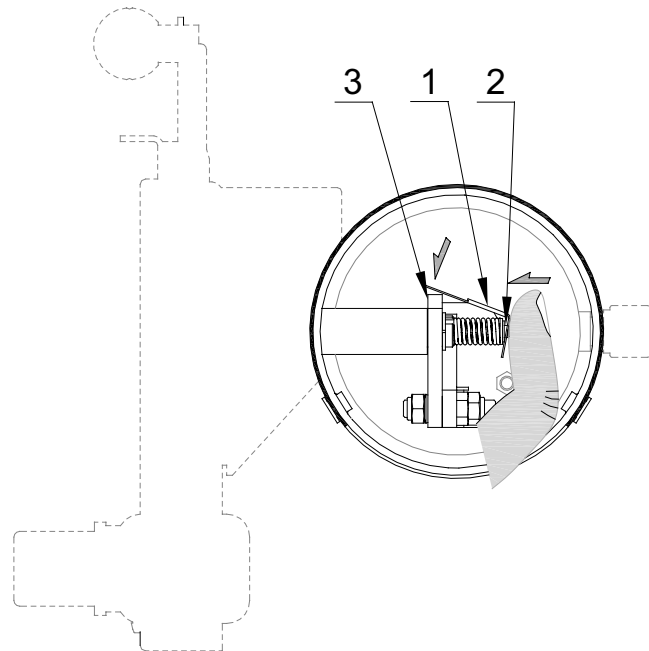

Fig. 11 Change the fuse in small manual fire damper
3. Push the knob (2) so the spring is pressed with enough power to replace the fuse (1). (Fig. 11)